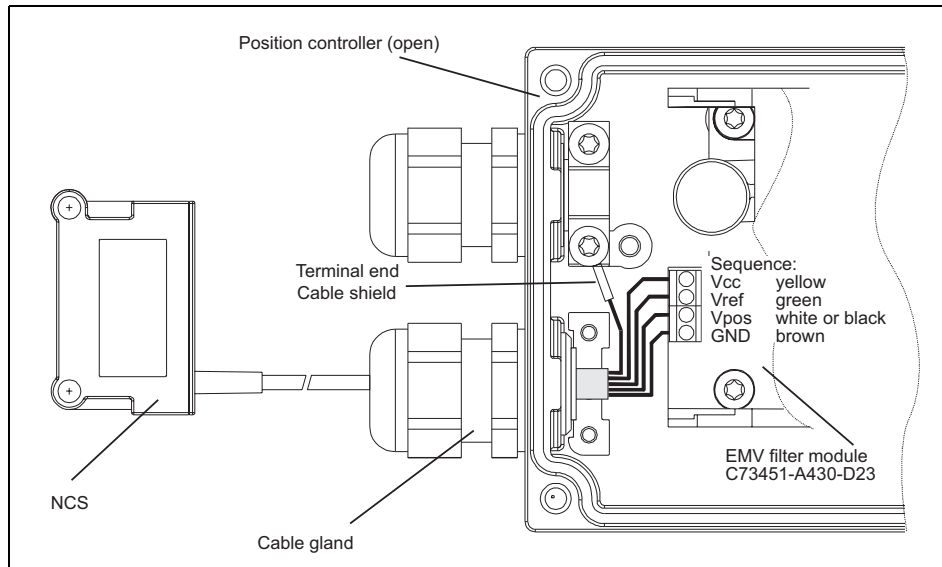

Figure 8 Connecting the NCS to the EMC filter module
4. Clamp the colored wires of the cable in the following order (see Figure 8, page 57) to the terminal of the EMC filter module: